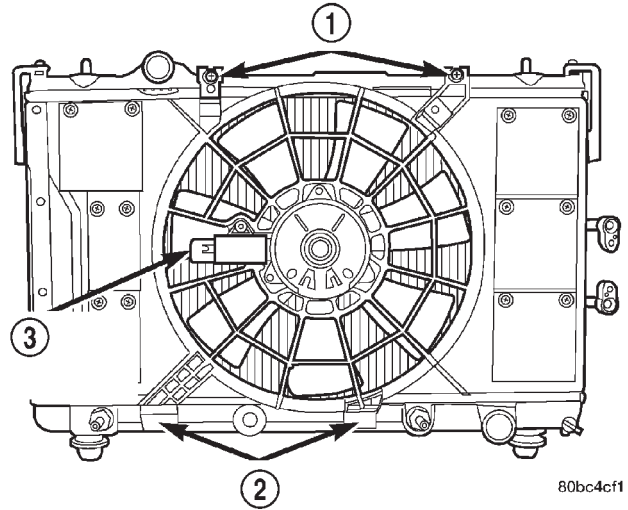
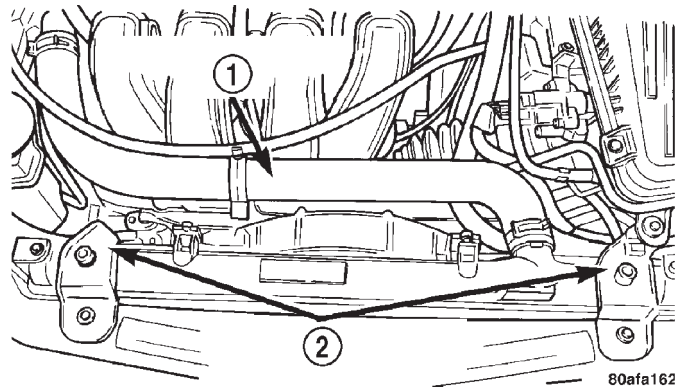

Fig. 23 Fan Module Mounting
Fig. 24 Radiator Mounting
- (1) Disconnect negative cable from battery.
- (2) Drain cooling system. Refer to procedure in this section.
- (3) Remove upper radiator hose from the radiator.
- (4) Disconnect and cap automatic transmission hoses, if equipped.
- (5) Disconnect cooling fan motor electrical connector.
- (6) Remove cooling fan module retaining screws, located on the top of the shroud (Fig. 23). Lift shroud up and out of bottom shroud attachment clips separating shroud from radiator.
- (7) Remove the lower radiator hose.
- (8) Remove upper radiator isolator bracket mounting screws (Fig. 24). Disconnect the engine block heater wire, if equipped.
- (3) Install and tighten radiator isolator mounting bracket screws to 10 N·m (90 in. lbs.) (Fig. 24). The radiator should have clearance to move up, approximately 5–8 mm (0.20–0.31 in.) after assembled.
- (4) Install lower radiator hose. Align the hose and position the clamp so it will not interfere with engine components.
- (5) Connect automatic transmission hoses, if equipped. Tighten hose clamps to 2 N·m (18 in. lbs.).
- (6) Slide fan module down into clip(s) on lower radiator flange (Fig. 23). Install retaining screws and tighten to 7.5 N·m (65 in. lbs.).
- (7) Connect the cooling fan motor electrical connector.
- (8) Install upper radiator hose. Align the hose and position the clamp so they will not interfere with the engine or the hood.
- (9) Connect negative cable to battery.
- (10) Fill cooling system with coolant. Refer to procedure in this section.
- (11) Operate engine until it reaches normal operating temperature. Check cooling system and automatic transmission for correct fluid levels.